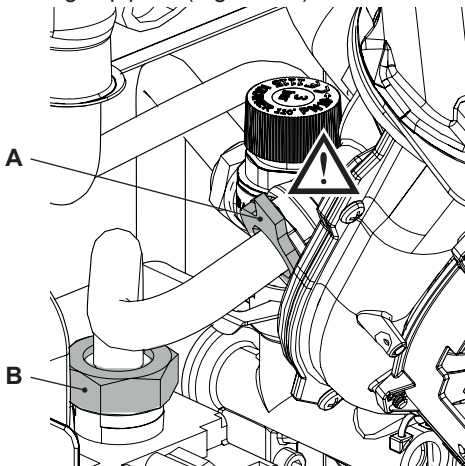

Figure 8.1
- Unscrew the swivel joint **B** and remove the gas pipe **A** (Figure 8.1).
Note: to reassemble, repeat the operations in reverse order, being careful not to damage the gas pipe OR gasket when the pipe is inserted in the gas/air mixer. Carry out the gas tightness test after tightening the gas pipe swivel joint (Figure 8.1).